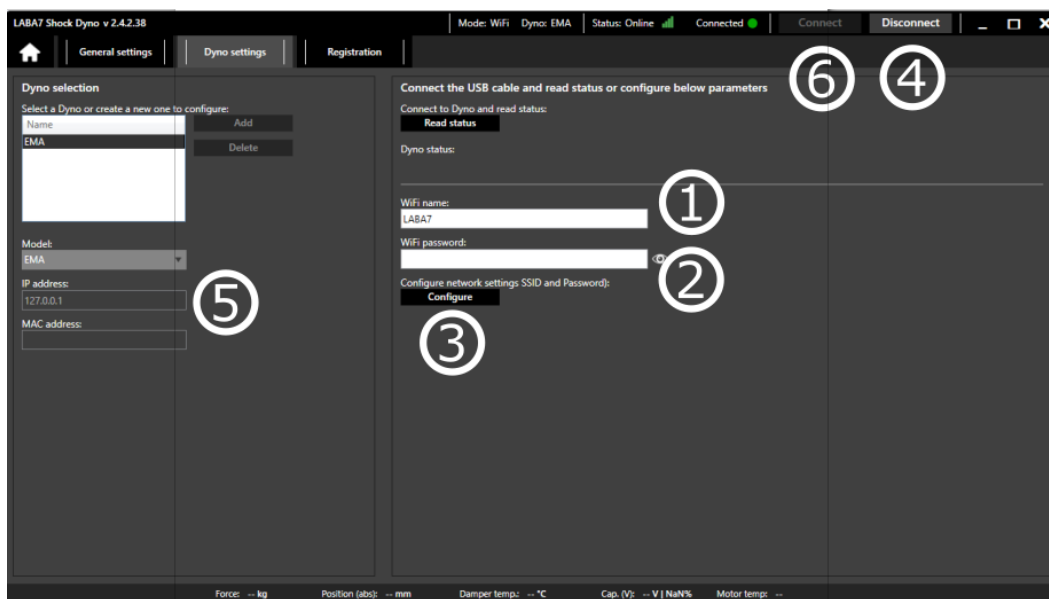

Figure 16
3. Enter Wi-Fi name (Figure 16 – Step 1).
4. Enter Wi-Fi password (Figure 16 – Step 2).
5. Click on Configure button (Figure 16 – Step 3).
6. Once you get notification about successful Wi-Fi connection, press  (Figure 16 – Step 4).
8. Change the IP address to the one which is now being showed in the screen of the device. (Figure 16 – Step 5).
9. Press  (Figure 16 – Step 6).